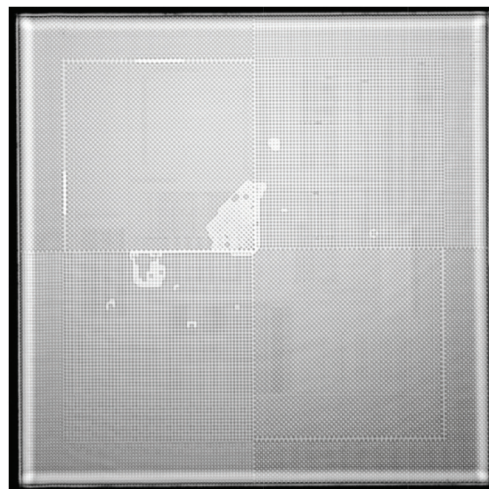

Figure 8. CSAM picture after QTC 20 cycles showing no white bumps observed.
Quick thermal cycling test (QTC) has been widely used in the semiconductor industry to evaluate ELK margin for CPI. The parts built without underfill (UF) and run through thermal cycling test (-40°C TO 60°C). Data without white bumps is the critical criteria for the QTC test. Normally we use 20 cycles as the release condition for CPI. The more cycles passed represents stronger ELK dielectric material and overall more robust structure. Representative CSAM picture in Figure 8 after QTC 20 cycles shows no white bumps.